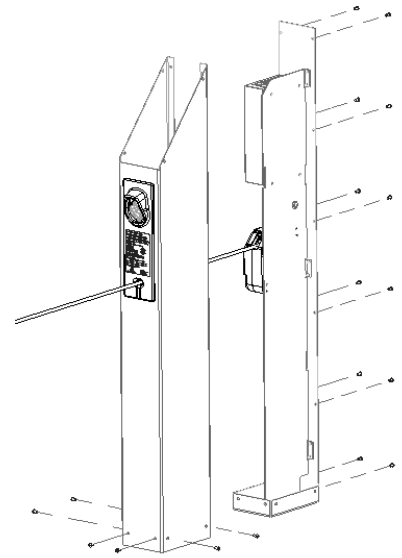

Figure 5 – Front Housing Removed
5. Remove 6 screws in the lower front and sides of the unit that attach the front housing to the charging base. Remove 12 screws in the back of the unit that attach the front housing to the charging base. Retain screws for later installation. Gently lift the front housing ~ 2" inch and slide forward and out of the way. (See Figure 5)